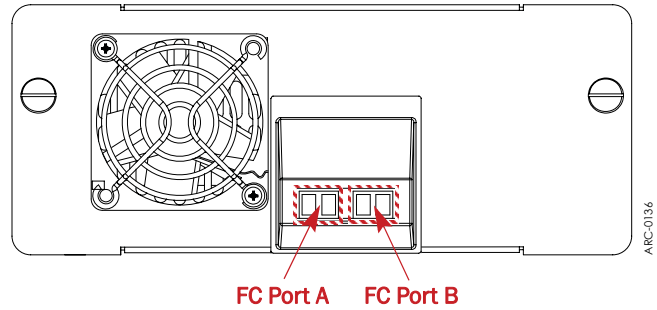

Figure 7. FC Drive Cover Assembly
1. Connect your **Fibre Channel cabling** to either of the FC ports and the other end to your system (**Figure 7**).